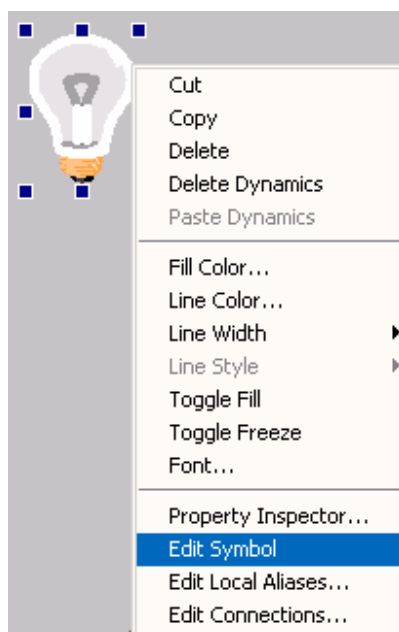

Figure 5.23. Editing a Symbol
1. First, in **Configuration** mode, right-click on the light bulb and select **Edit Symbol** from the pop-up menu, as shown in **Figure 5.23**.